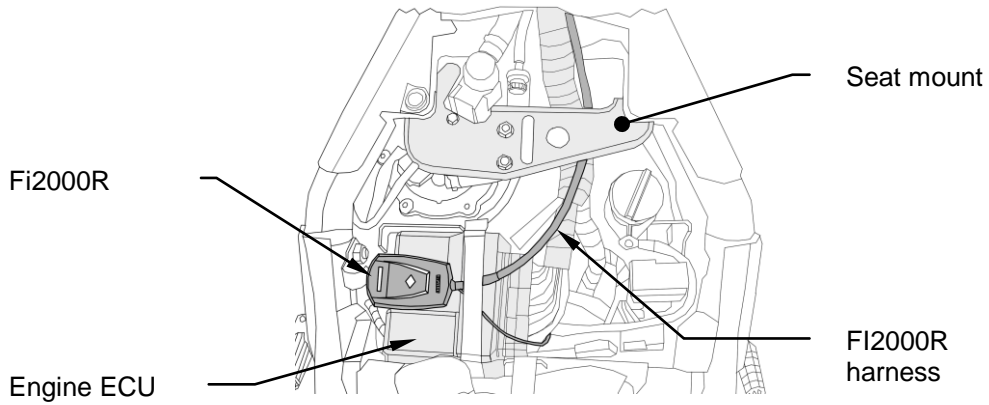
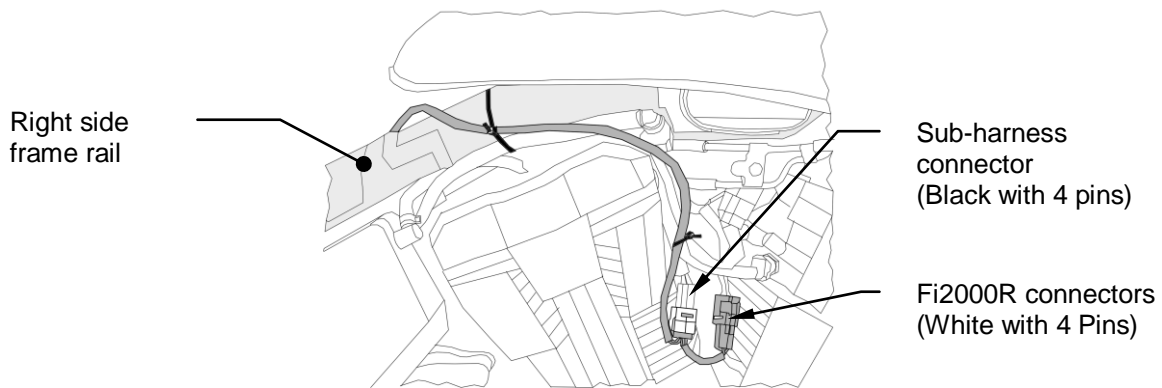

FIGURE 1
FIGURE 2
2. Temporarily place the Fi2000R module on top of the ECU and route the wire harness under the seat mount on the right hand side and on top of the large wiring harness, (Fig. 1.) Continue by routing the harness over the top of the right frame rail and along the fuel line and stock harness locations, (Fig. 2). The Fi2000R connectors should lie close to the stock injector sub harness connector (4 pins).
3. Disconnect the stock injector sub harness connectors (black with 4 pins) by pressing the tab in. Plug the mating Fi2000R connectors (white with 4 pins) between them, (Fig 2.)